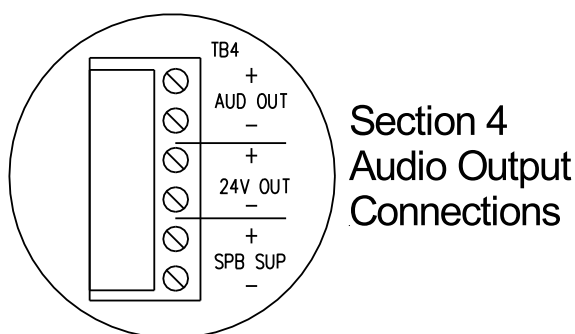

Figure 14 Audio Output Connections
1. Connect the Audio Appliance Circuit to the Audio Output (AUDIO OUT) connection on TB4. See Figure 10 for TB4's location. Figure 14 is an enlarged picture of the referred area. The Audio Output is supervised. A UL Listed 10K Ohm, ½ W EOLR is required at the end of the circuit for proper supervision.